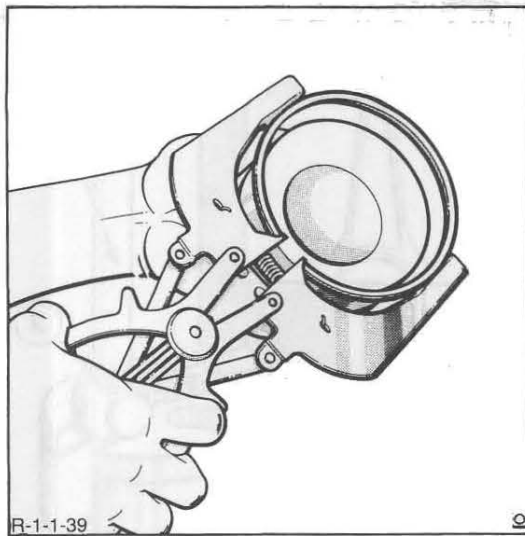

Figure 38
2. Use an expander to remove the piston rings, Figure 38.